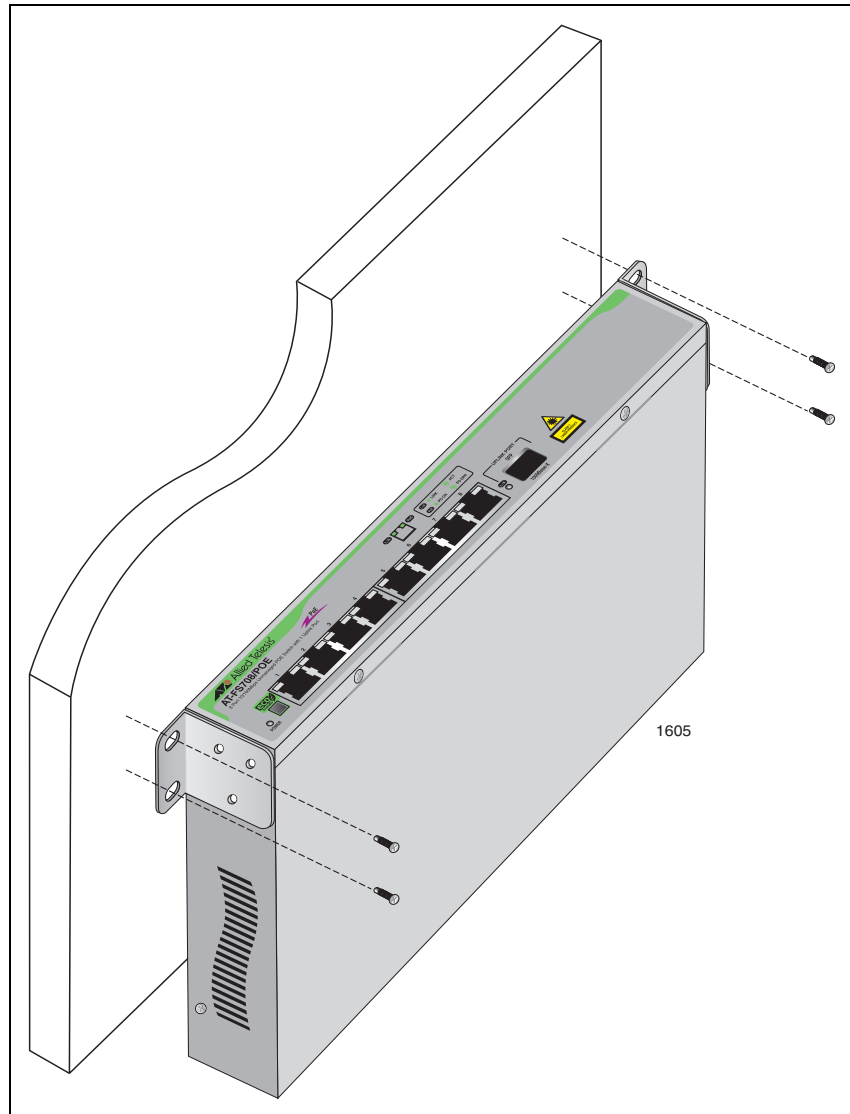

Figure 6. Mounting The Switch on the Wall
8. Mount the switch on the wall using the self-tapping phillips-head screws, as shown in Figure 6.